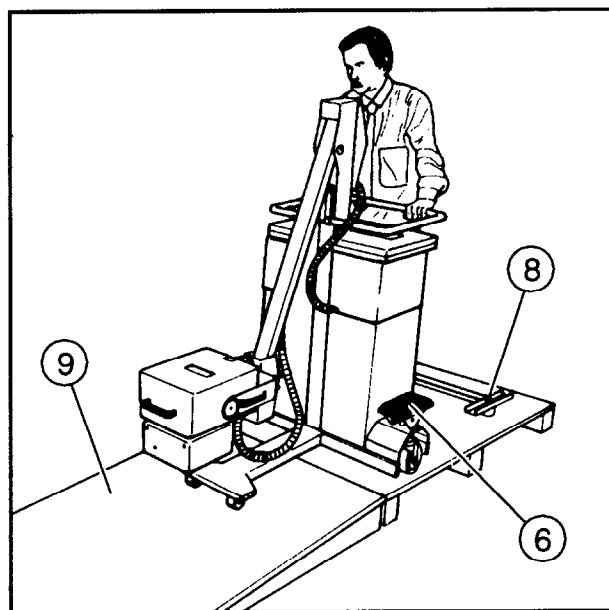

Fig. 3
- Bring the foot pedal from the locking position into the maneuvering position (6/Fig. 3). For other foot pedal positions, refer to the operating instructions.
- Push the POLYMOBIL 10 over the rail (8/Fig.3) and move it off the pallet via the ramp (9/ Fig. 3).